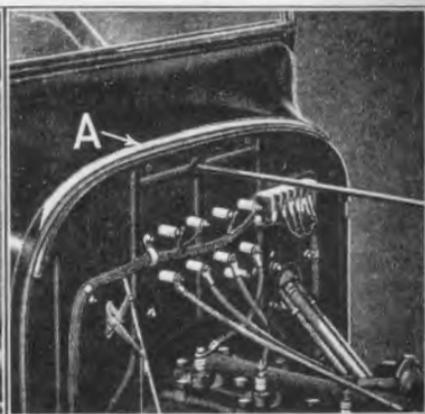

Fig. 114
- (b) Install dash felt between body and dash (See "A" Fig. 114).